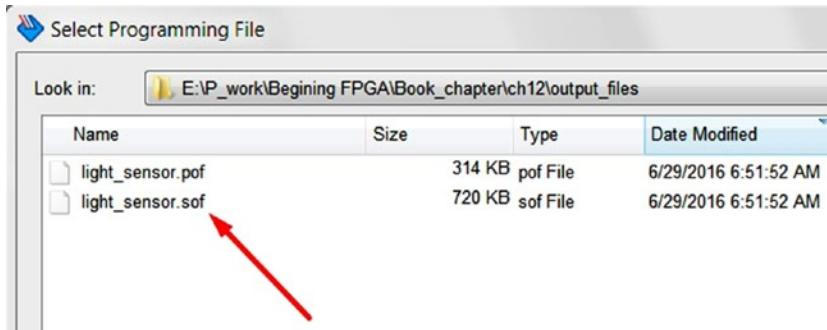

Figure 12-46. Select file **light_sensor.sof**
Step 2: You can point to the newly created configuration file by clicking the **Add File** button and selecting the **light_sensor.sof** file under the **output_files** directory (Figure 12-46).